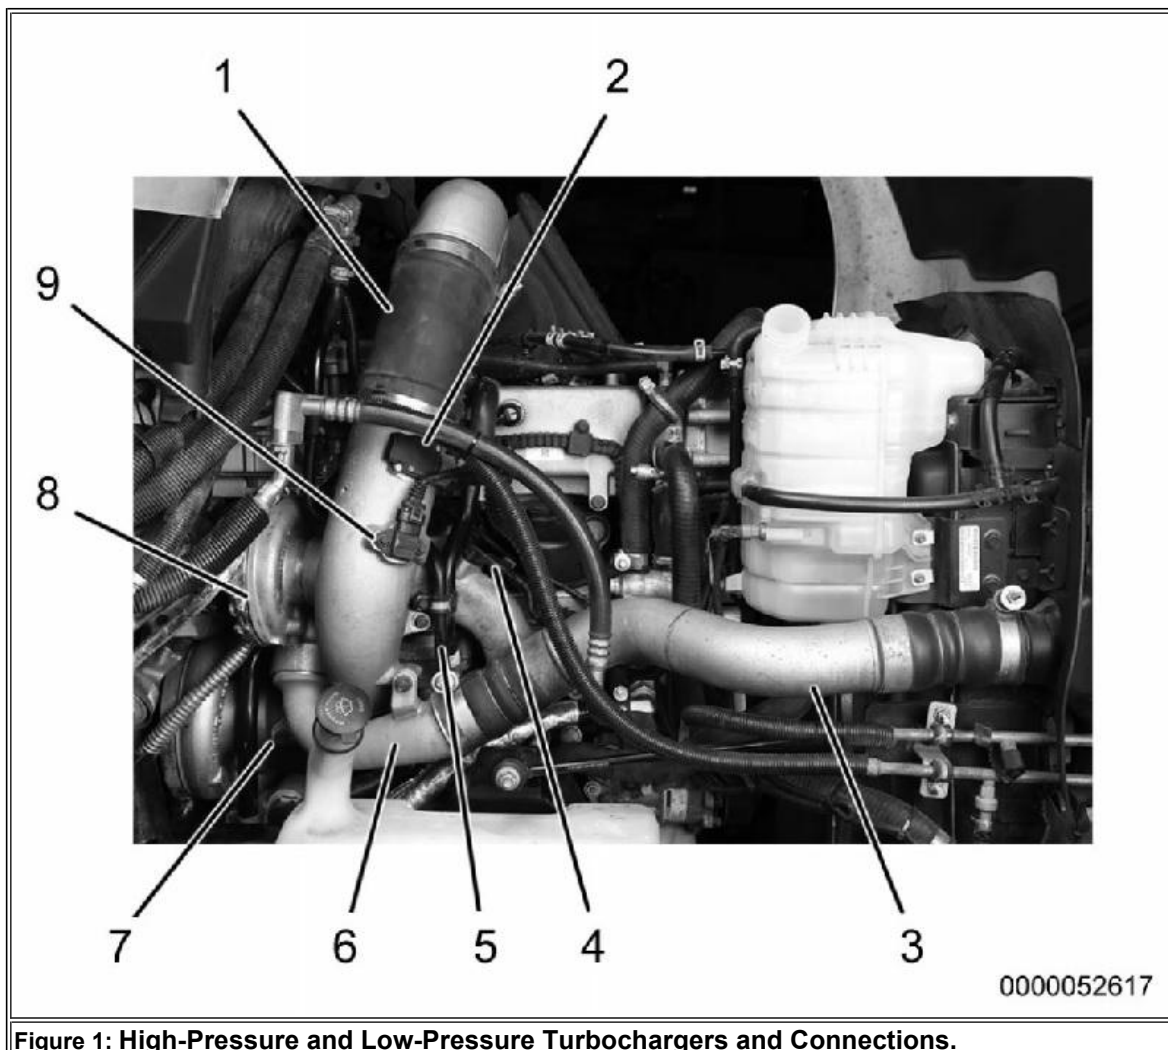
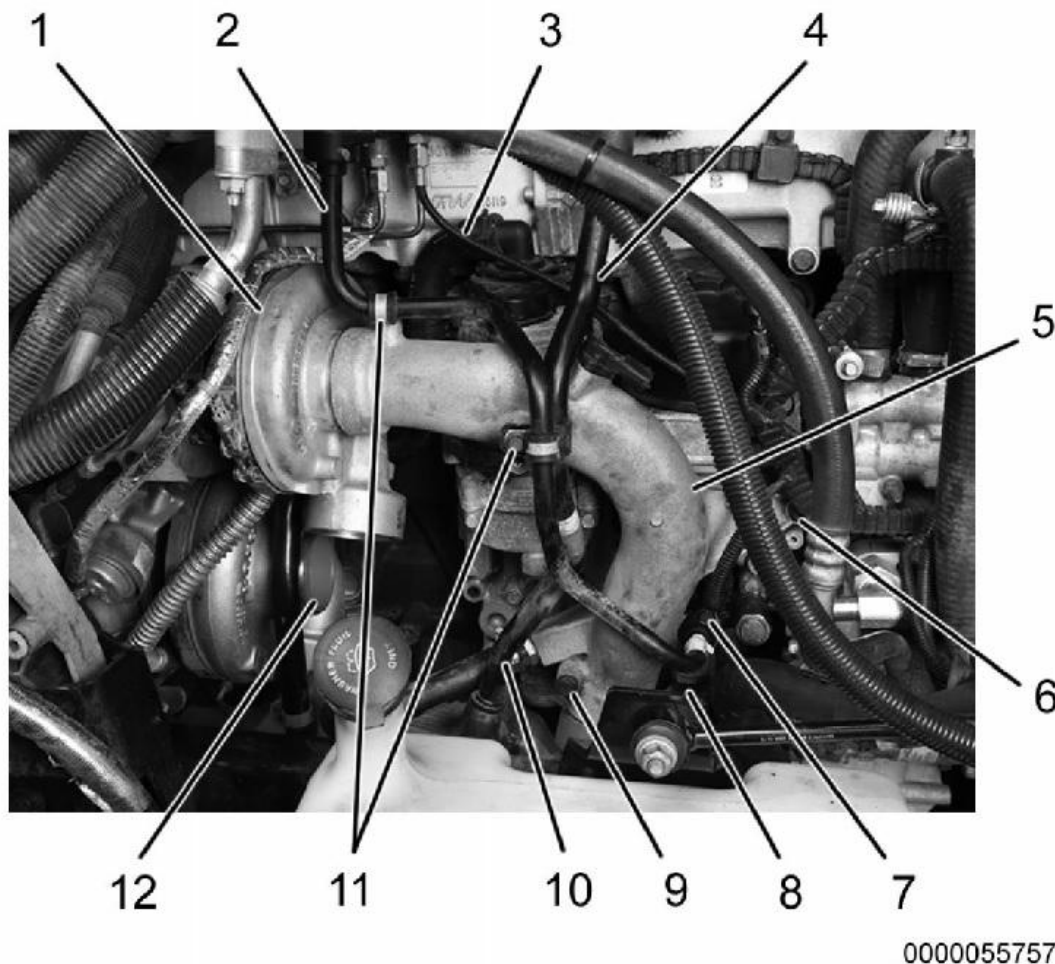

Figure 1: High-Pressure and Low-Pressure Turbochargers and Connections.
Figure 2: HP Turbocharger and Connections.
5. Remove air inlet duct (Figure 1, Item 1).
6. Remove High-Pressure Charge Air Cooler (HPCAC) pipe (Figure 1, Item 3) from HPCAC and HP turbocharger outlet duct (Figure 1, Item 6).
8. Disconnect engine harness connectors at Engine Oil Pressure (EOP) sensor, Turbocharger 2 Compressor Inlet Pressure (TC2CIP) sensor (Figure 1, Item 4), Air Inlet Temperature (AIT) sensor (Figure 1, Item 9), and if equipped, Mass Air Flow (MAF) sensor (Figure 1, Item 2).
10. Remove HP turbocharger outlet duct (Figure 1, Item 6). Discard HP turbocharger outlet duct O-ring.
11. Remove Low-Pressure (LP) turbocharger air inlet duct (Figure 1, Item 7) and cover LP turbocharger with cap (Figure 2, Item 12). Discard LP turbocharger air inlet duct O-ring.
12. Disconnect air supply line (Figure 2, Item 3) from Air Control Valve (ACV) and secure out of the way.
13. Remove two bolts (Figure 2, Item 11) securing cab heater coolant return pipe (Figure 2, Item 2) and Low-Pressure Charge Air Cooler (LPCAC) coolant supply pipe (Figure 2, Item 4).
14. Remove bolt (Figure 2, Item 7) and position cab heater coolant return pipe (Figure 2, Item 2) out of the way.
15. Remove two clamps and LPCAC coolant supply pipe (Figure 2, Item 4) from vehicle.
16. Disconnect coolant return hose (Figure 2, Item 8) from HP turbocharger air inlet duct (Figure 2, Item 5).
17. Disconnect coolant hose (Figure 2, Item 10) from HP turbocharger air inlet duct (Figure 2, Item 5).
Do not remove HP turbocharger air inlet duct from HP turbocharger (Figure 2, Item 1) at this time.
18. Remove two mounting bolts (Figure 2, Items 6 and 9) from HP turbocharger air inlet duct (Figure 2, Item 5).
10. Install and torque HP turbocharger air inlet duct mounting bolts (Figure 2, Items 6 and 9) to 45 lb-ft (62 N·m).